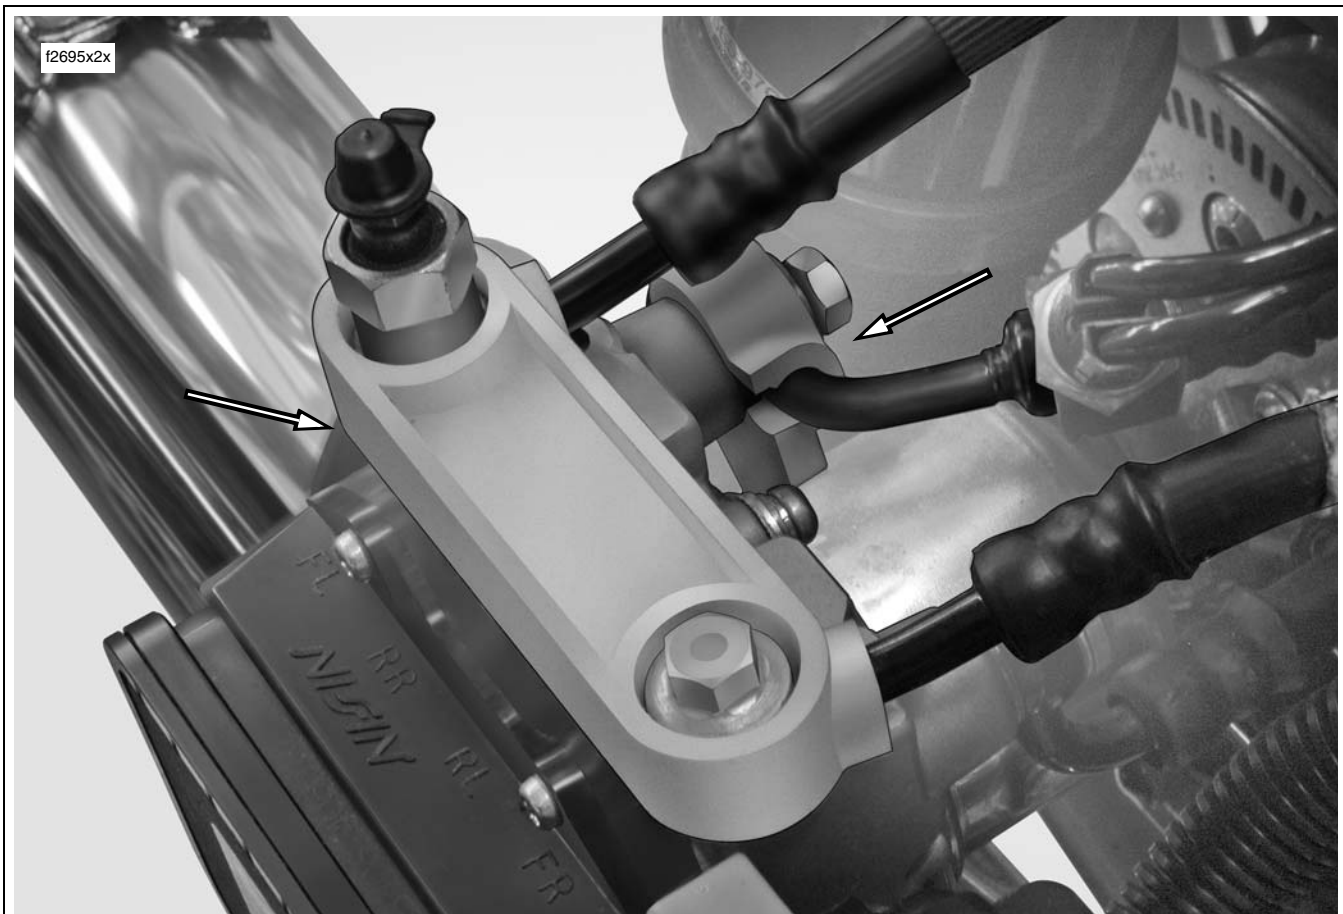

Figure 12. Install Two Anti-Rotation Clips at ABS Module
16. See Figure 12. Install double sided anti-rotation clip over banjo bolts in front top port and rear top port of ABS module. If necessary, loosen banjo bolts 1/2 turn to properly orient brake lines (to front and rear calipers, respectively). Holding brake lines, tighten banjo bolts to 17-22 ft-lbs (23.0-29.8 Nm). Verify that clearance between shock absorber and line to rear caliper is 1/8 in. (3.2 mm) minimum.
20. See Figure 12. Start banjo bolt with **new** steel/rubber washers in rear inboard port of ABS module to install brake line (from rear master cylinder). Install anti-rotation clip over banjo bolt to properly orient brake line. Holding brake line, tighten banjo bolt to 17-22 ft-lbs (23.0-29.8 Nm).
22. See Figure 12. Start banjo bolt with **new** steel/rubber washers in front top port of ABS module to install brake line (to front calipers). Install double sided anti-rotation clip over banjo bolts. If necessary, loosen banjo bolt in rear top port 1/2 turn to properly orient brake line (to rear caliper). Holding brake lines, tighten banjo bolts to 17-22 ft-lbs (23.0-29.8 Nm). Verify that clearance between shock absorber and line to rear caliper is 1/8 in. (3.2 mm) minimum.
16. See Figure 12. Install anti-rotation clip over banjo bolt in rear inboard port of ABS module. If necessary, loosen banjo bolt 1/2 turn to properly orient brake line (from rear master cylinder). Holding brake line, tighten banjo bolt to 17-22 ft-lbs (23.0-29.8 Nm).
17. See Figure 12. Install double sided anti-rotation clip over banjo bolts in front top port and rear top port of ABS module. If necessary, loosen banjo bolt in front top port 1/2 turn to properly orient brake line (to front calipers).
22. See Figure 12. Start banjo bolts with **new** steel/rubber washers in front top port and rear top port of ABS module to install brake lines (to front and rear calipers, respectively). Install double sided anti-rotation clip over banjo bolts to properly orient brake lines. Holding brake lines, tighten banjo bolts to 17-22 ft-lbs (23.0-29.8 Nm). Verify that clearance between shock absorber and line to rear caliper is 1/8 in. (3.2 mm) minimum.